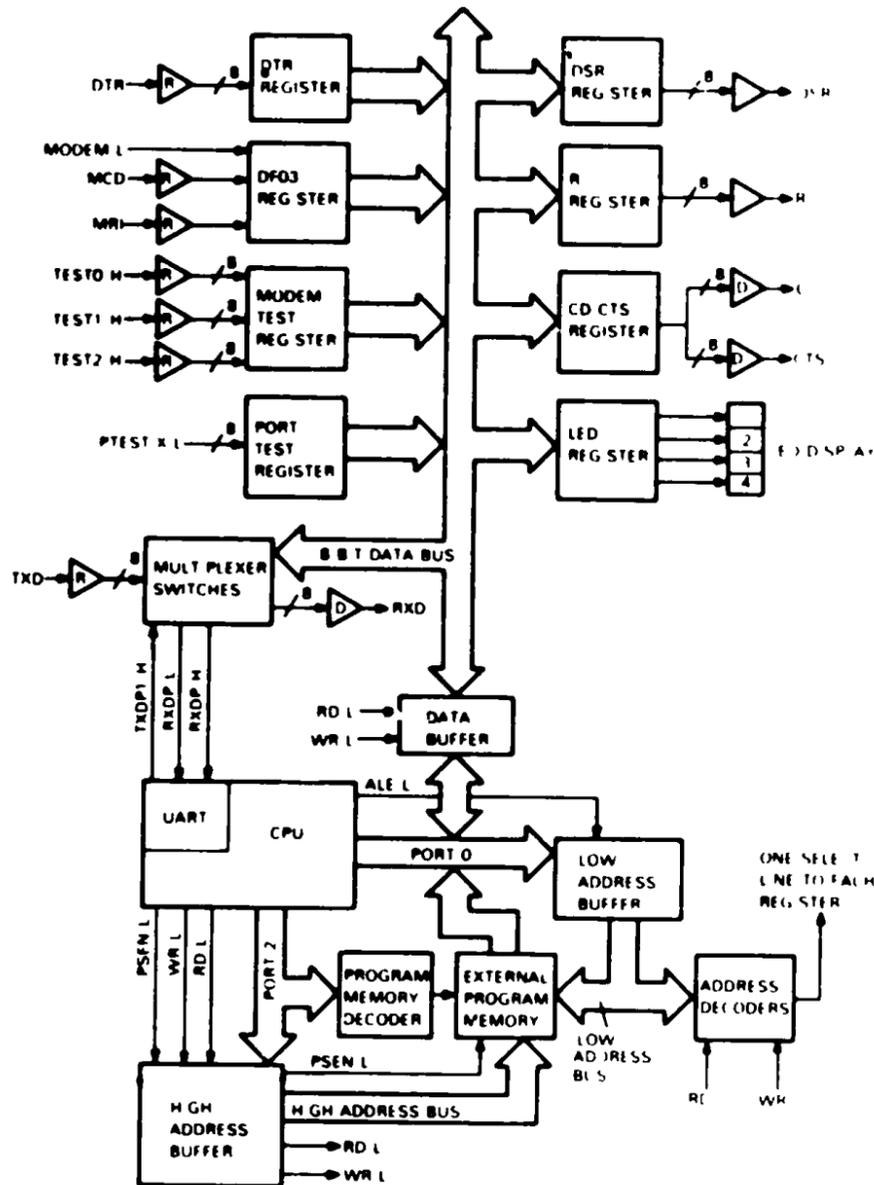

Figure 2-2 Logic Board Functional Block Diagram
Figure 2-2 shows the functional block diagram of the logic board. Refer to this figure for the following discussion.
2.2.1 Central Processor Unit (Figure 2-2)